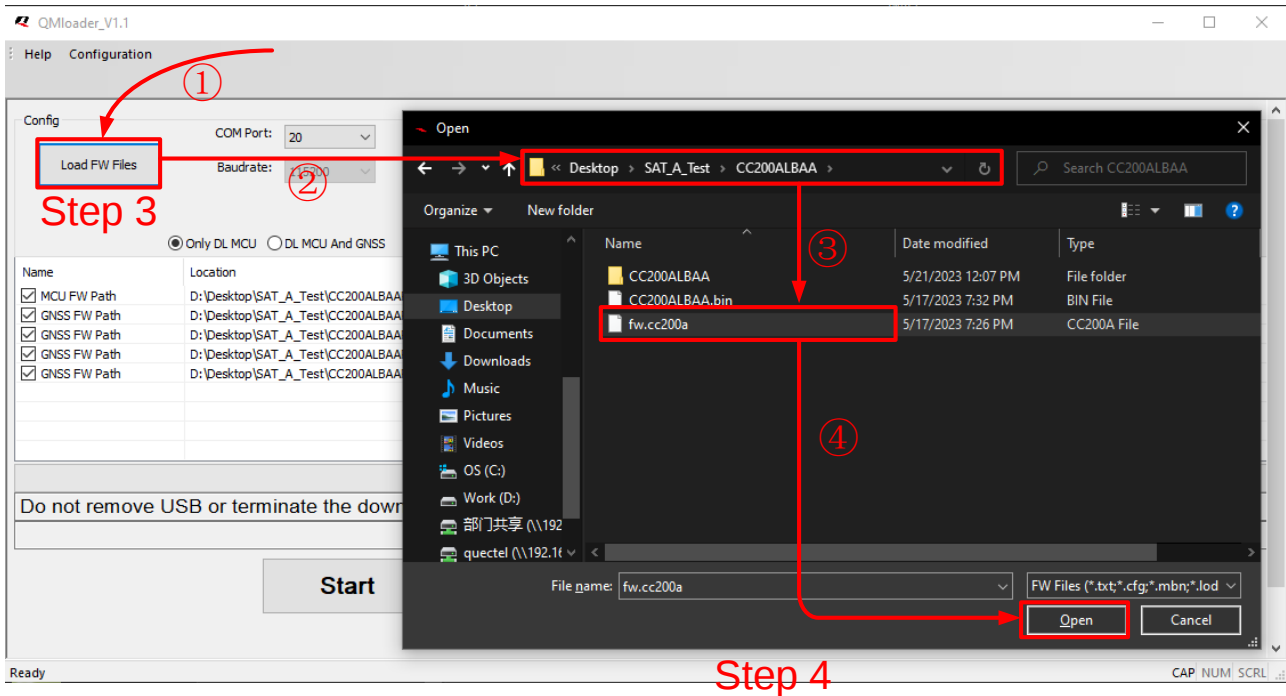

Figure 27: Click “Load FW Files” to Open the Desired Firmware File
4. Click the “**Load FW Files**” marked by Step 3 in **Figure 27**. Choose the desired firmware file folder and find the specific file named after the module name.
5. Open this specific file to make the module enter the QMloader upgrade mode as indicated by Step 4 in **Figure 27**.